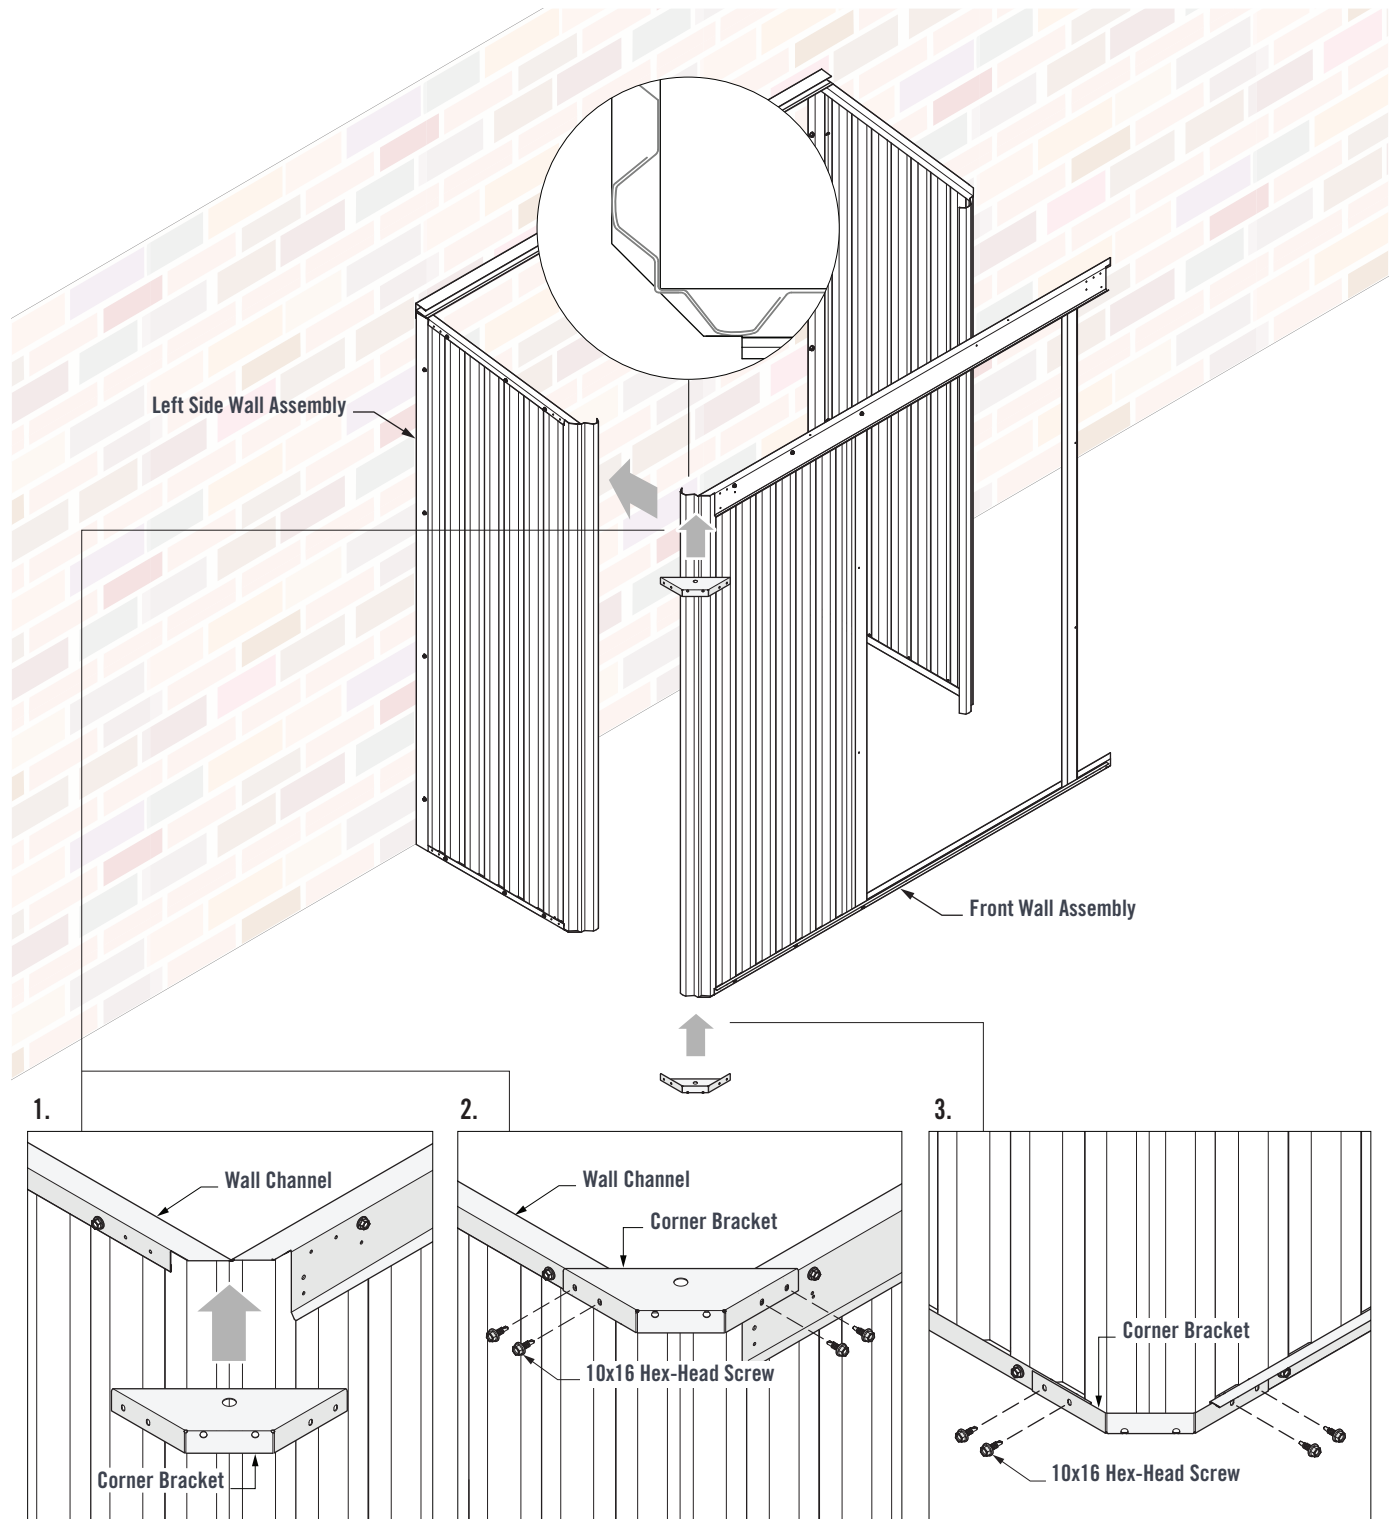

FIGURE 7.0
Fit the Corner Wall Sheet of the Front Wall Assembly over the Left Side Wall Sheet. Ensure the Corner Sheet fits inside the Side Wall Channels (Figure 7.0).
1. Fit a Corner Bracket over the top Channels. Ensure the pilot holes of the Corner Bracket and Channels line up (Figure 7.0).
2. Fasten through the Corner Bracket pilot holes and into the top Channels using four 10x16 Hex-Head Screws (Figure 7.0).
3. Fit a Corner Bracket to the bottom Wall Channels. Fasten through the Corner Bracket pilot holes and into the bottom Wall Channels using four 10x16 Hex-Head Screws (Figure 7.0).
2. Fit the Corner Brackets as per Figure 7.0.